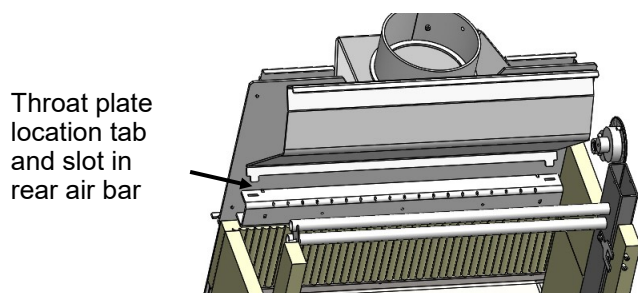

Fig. 4.
- Lift the throat plate into position with the front above the perforated air tube. Align the 2 tabs on the throat plate with the location slots in the rear air bar and drop into position (See Fig 4)